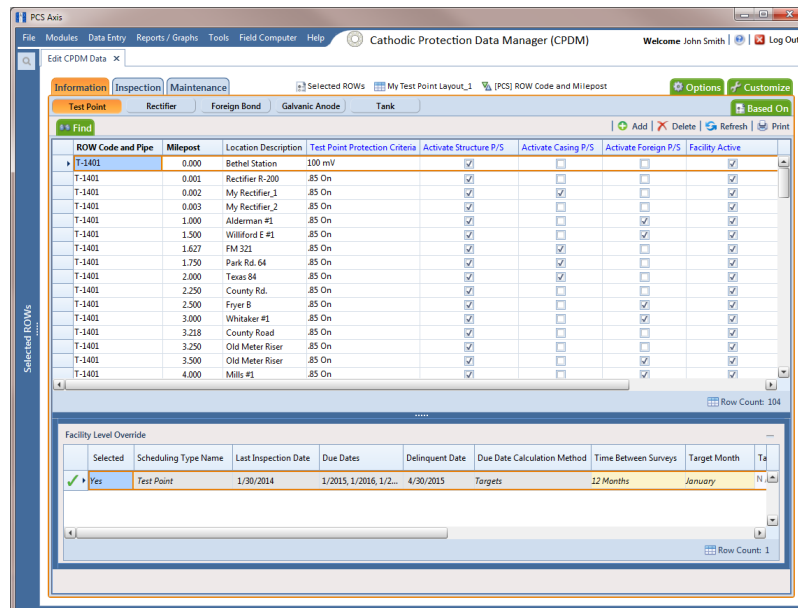

Figure 7-5. Information Grid
- 3 Open the *Edit <module> Data* window. For example, click **Data Entry > Edit CPDM Data** to open the *Edit CPDM Data* window (Figure 7-5).